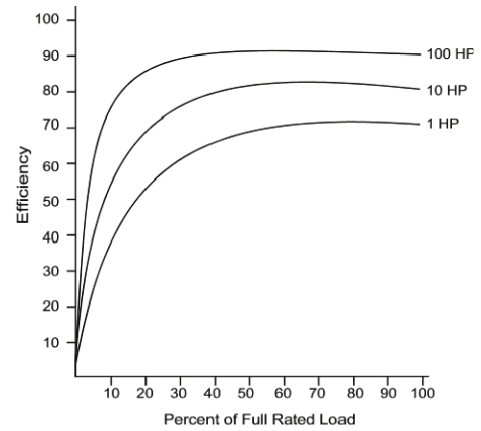

Figure 1
- The efficiency curve for typical standard efficiency AC motors is shown in Figure 1.